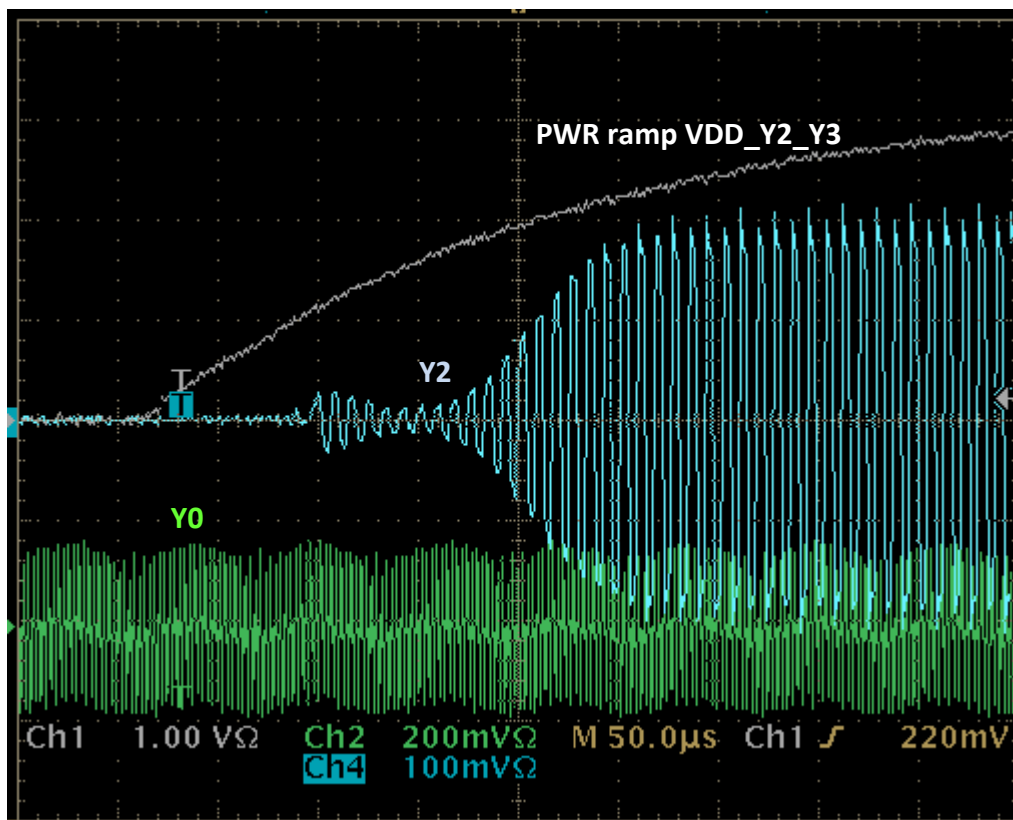

Figure 37. Sequencing the Output Turn-on Through Sequencing the Output Supplies. Output Y2 Powers Up While Output Y0 is Already Running.
2. **Output Power supply domain control:** An even easier scheme might be to connect the clock output power supply VDD_Yx to the corresponding DSP input clock supply domain. In this case, the CDCM6208 output will remain disabled until the DSP rails ramps up as well. Figure 37 shows the turn-on behavior.